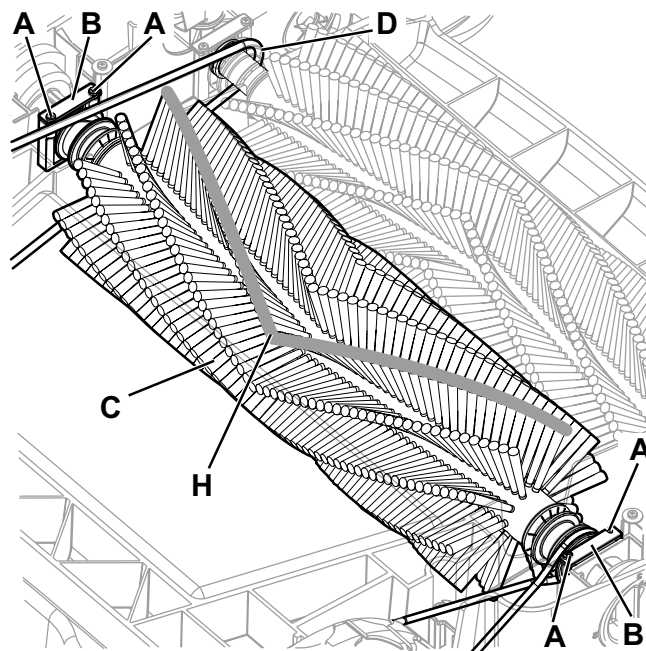

Figure 1
4. Remove the screws (A, Fig. 1), then remove the supports (B) with the main broom (C).
- Install the main broom with the bristles as shown in (H, Fig. 1).
- Pay attention to the proper position of the long driving belt (D, Fig. 1).
- Turn the 2 knobs (7) on the position 1.